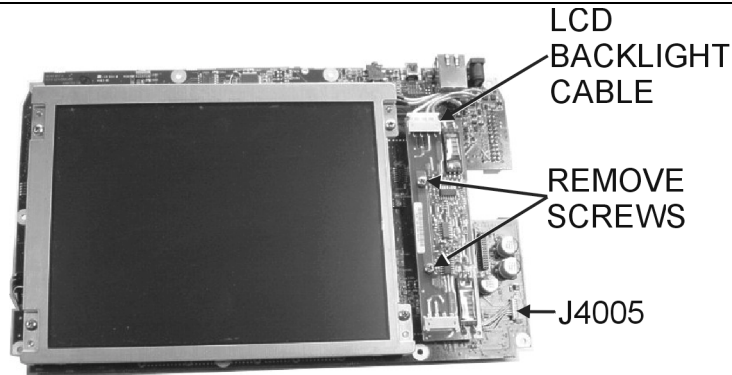

Figure 19. LCD Backlight PCB Removal and Replacement
3. Disconnect the LCD backlight cable from the LCD backlight PCB (Figure 19).